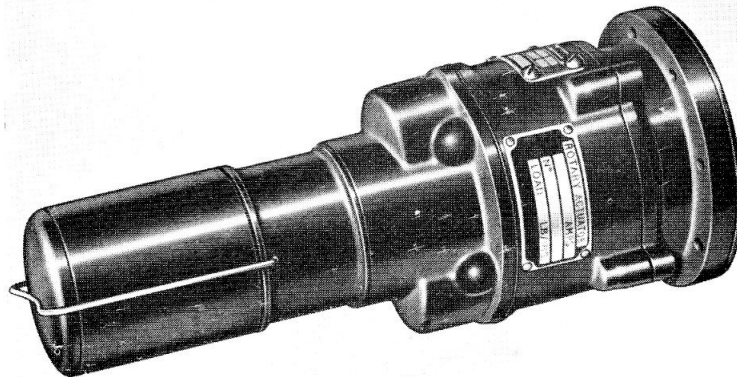

Fig. 1. Type C5510/3 actuator
1. This actuator (*fig. 1*) is generally similar to that described in the main chapter. The rotary movement of the output shaft is limited to 90 deg. by the two internal limit switches; a visual indicator enables the shaft stop position to be seen through a special adapter housings.